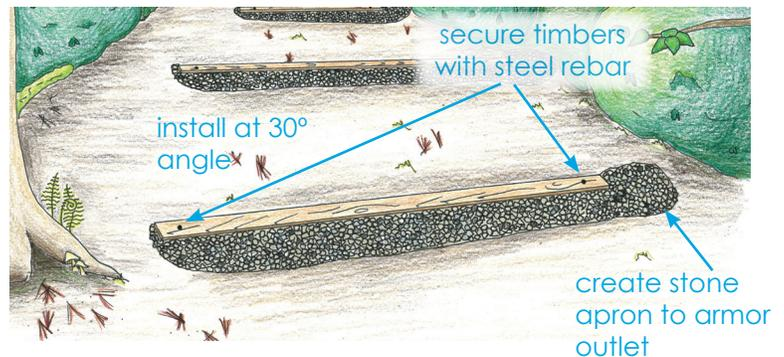

Figure 1. Top view of waterbar.
STEP 1. Dig. Dig a trench for the wood timber or log that is at approximately a 30° angle across the path. The trench should be deep enough so the top of the timber or log will be almost flush with the trail on its downhill side once in place. Be careful to dig only as deep as needed to set the timber to make sure that the soil under the water bar is stable. Store soil and rocks excavated from the trench on the trail below the water bar to be used later to backfill the trench (Figures 1 and 2).